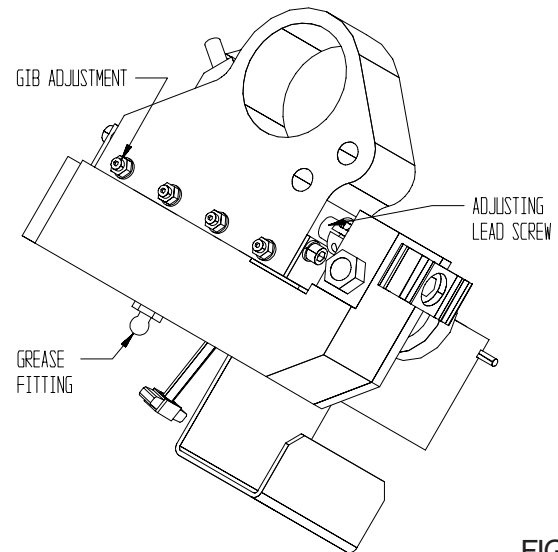

FIG. 9
2. Use the grease fitting provided to grease the dovetail with high quality lithium grease monthly. Wipe off excess grease. See FIG. 9.